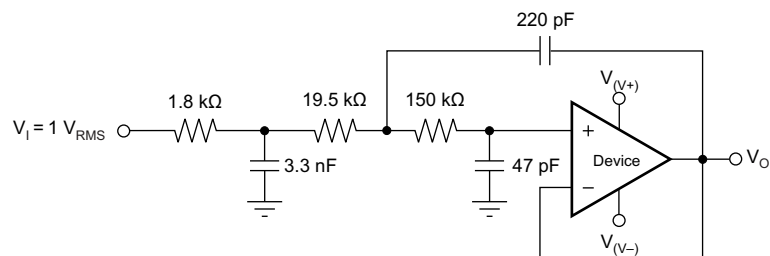

Figure 37. OPA355-Q1 Configured as a Three-Pole, 20-kHz, Sallen-Key Filter
3. Using a noninverting filter topology, such as the Sallen-Key (see Figure 37).